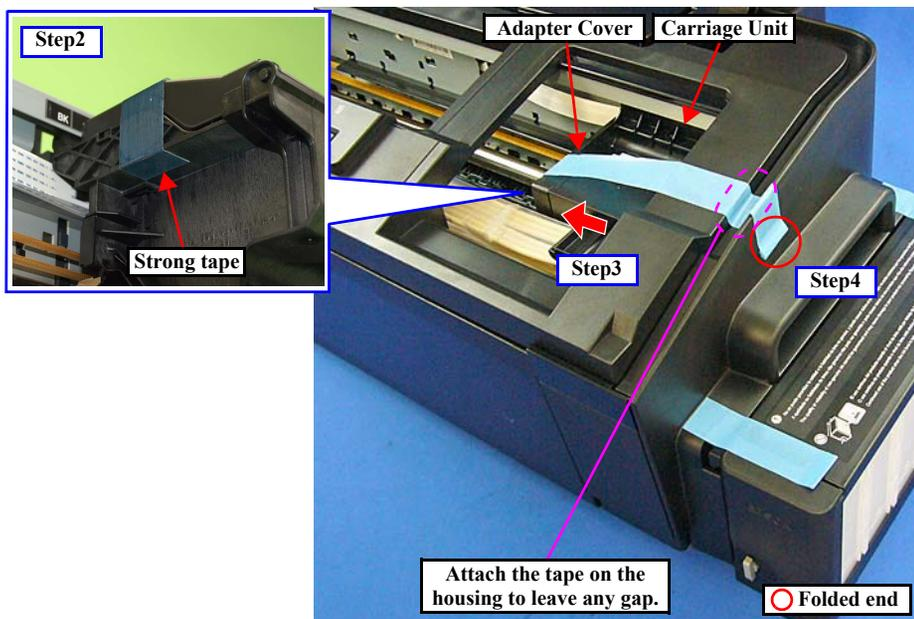

Figure 3-6. Securing the Carriage Unit
3. Move the carriage in the direction of the arrow (130 digit side) in Figure 3-6 until it touches the Carriage Lock.
4. Pull the tape toward the right side of the housing and attach it tightly along the shapes of the housing as shown in Figure 3-6 to secure the Carriage Unit.